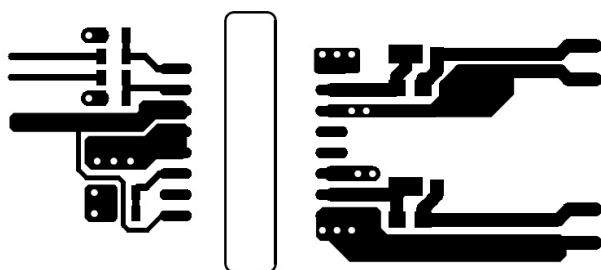

Figure 10-2. Top Layer Traces and Copper
- Increasing the PCB copper connecting to VDDA, VDDB, VSSA and VSSB pins is recommended, with priority on maximizing the connection to VSSA and VSSB (see Figure 10-2 and Figure 10-3). However, high voltage PCB considerations mentioned above must be maintained.
Figure 10-2 and Figure 10-3 shows top and bottom layer traces and copper.